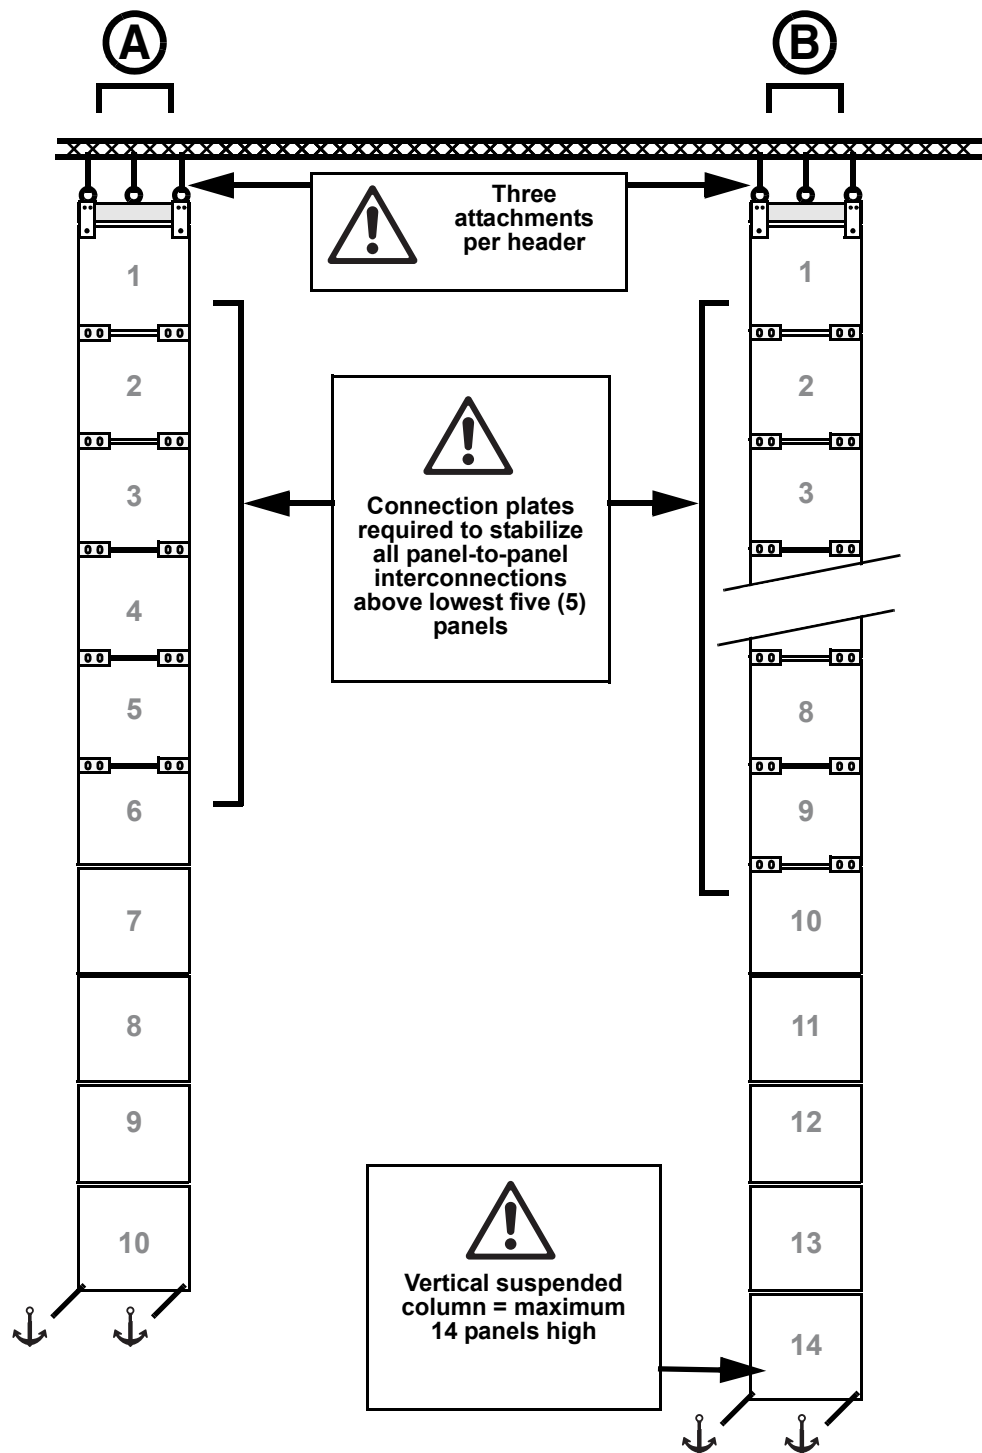

Figure 23: Single-column configurations
In any column of panels that is not joined to other panels at both sides and that is more than five (5) panels high, corner connection plates must be installed at all times on all four corners of every panel that is above the five (5) lowest panels in the column. See also Figure 23 on page 27.
See **A** and **B** in Figure 23. You may suspend a single column of panels maximum fourteen (14) panels high from a single header. The column can hang alone without panels being fastened at the sides to other panels. In this type of installation:
1. With reference to Figure 23, obtain enough corner connection plates available from Martin® to stabilize the column. You will need two connection plates for each panel above the lowest five panels. The lowest five panels can hang from their integral fastening posts without connection plates.